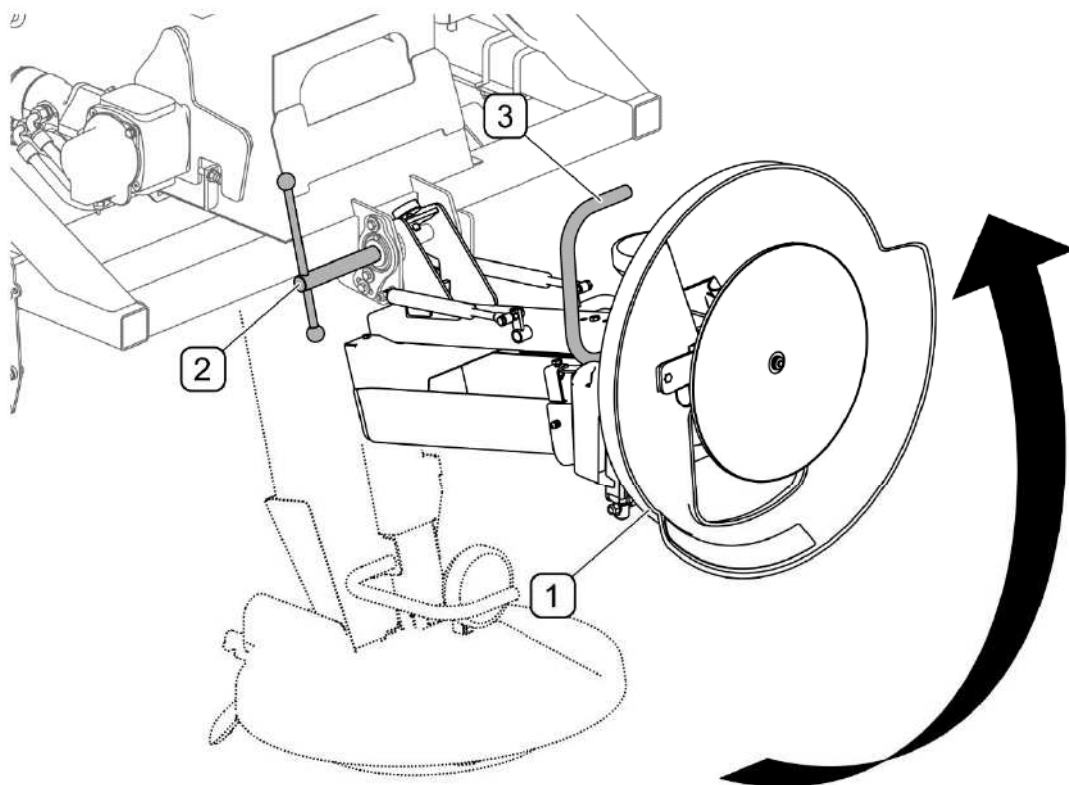

FIG. 4.33 Raising the spreading mechanism
- raise the spreading unit and lock it in the upper position (FIG. 4.33)
To raise the spreading mechanism for unloading (FIG. 4.33) do the following: